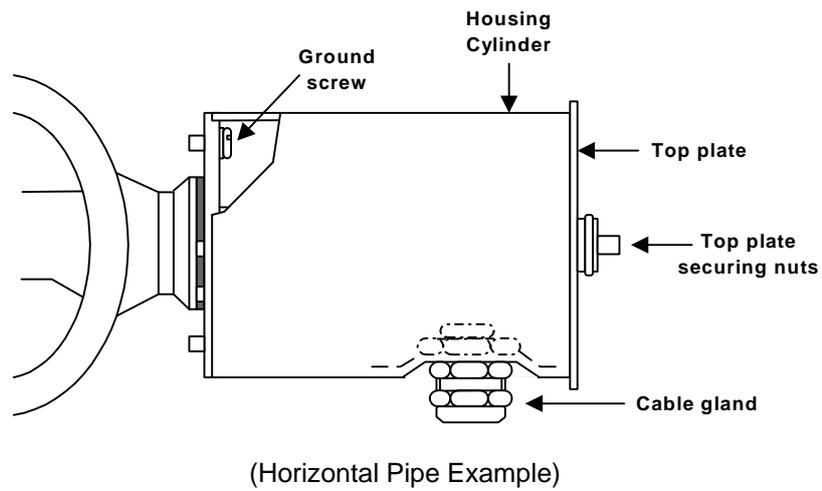

Figure 3.5: Details of the insert mounted electrode cover
- 2** Remove the top plate **securing nuts** from the **electrode cover** (shown in Figure 3.5) and then remove the top plate from the housing cylinder